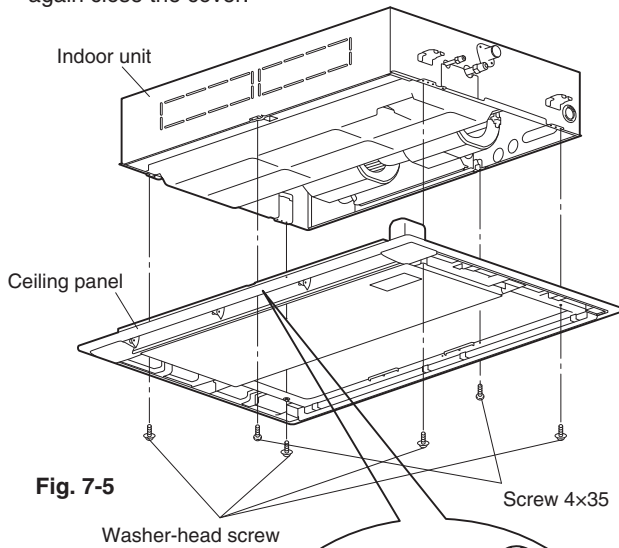

Fig. 7-5
- (5) Align the panel installation holes with the screw holes in the indoor unit.
- (6) Fit the supplied washer-head screws into the 4 panel installation holes, and tighten them until the panel is tightly attached to the indoor unit. (Fig. 7-5)